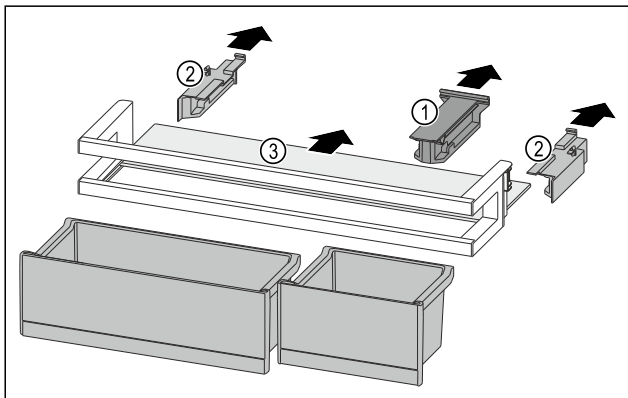

Fig. 110
- Pull off the holding part Fig. 110 (1).
- Pull off the side parts Fig. 110 (2).
- Remove the shelf Fig. 110 (3).